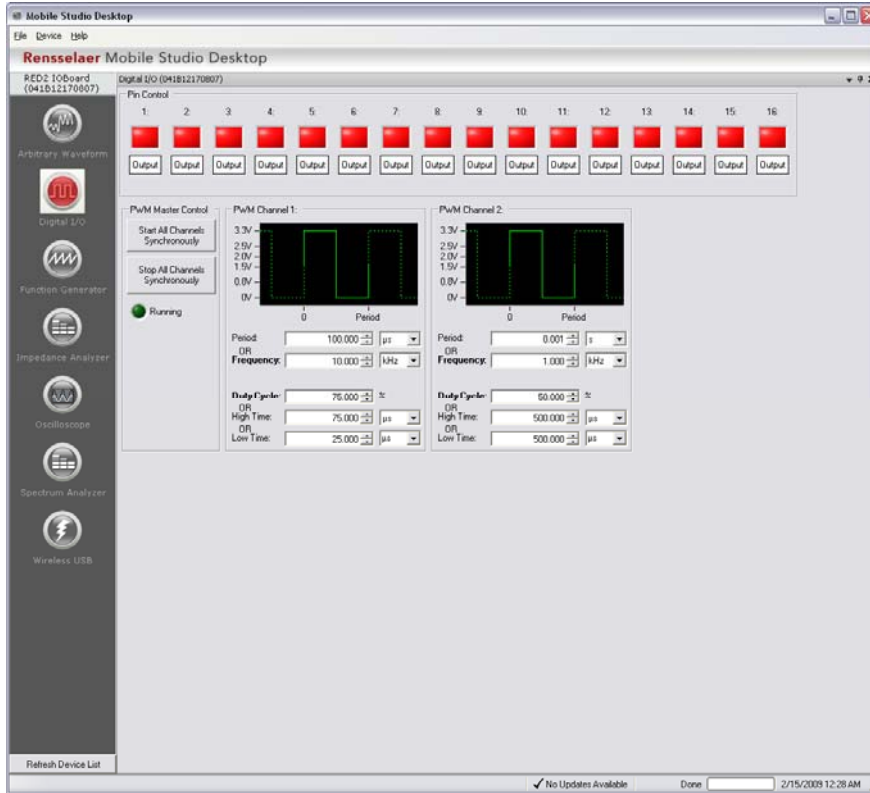

Figure 5-0: Digital I/O Function
- 1) Open the Digital I/O Function by selecting the icon second from the top along the left panel, shown in Figure 5-0.